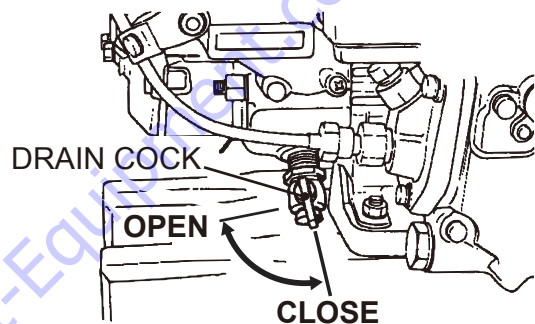

Figure 26. Coolant Drain Cock
4. If coolant needs to be replaced, place the drain cock in the open position and drain the existing coolant to a suitable container (Figure 26).